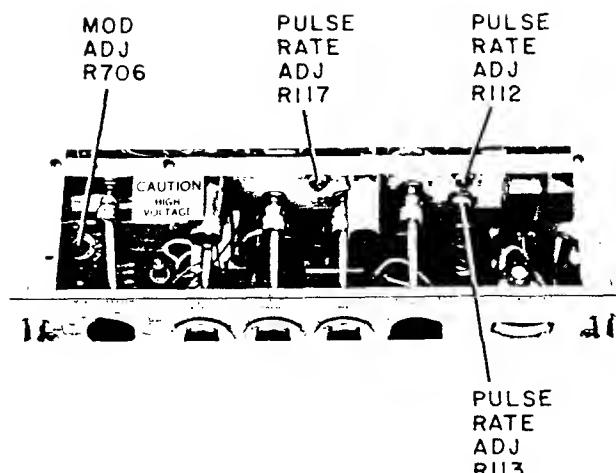

Figure 5-10. Location of Klystron and Modulator Adjustments (620B)
- Set MOD. SELECTOR to CW and measure klystron beam current with 428B Clip-on DC Milliammeter. Adjust potentiometer R706 (Figure 5-10) for 22-mA klystron beam current.